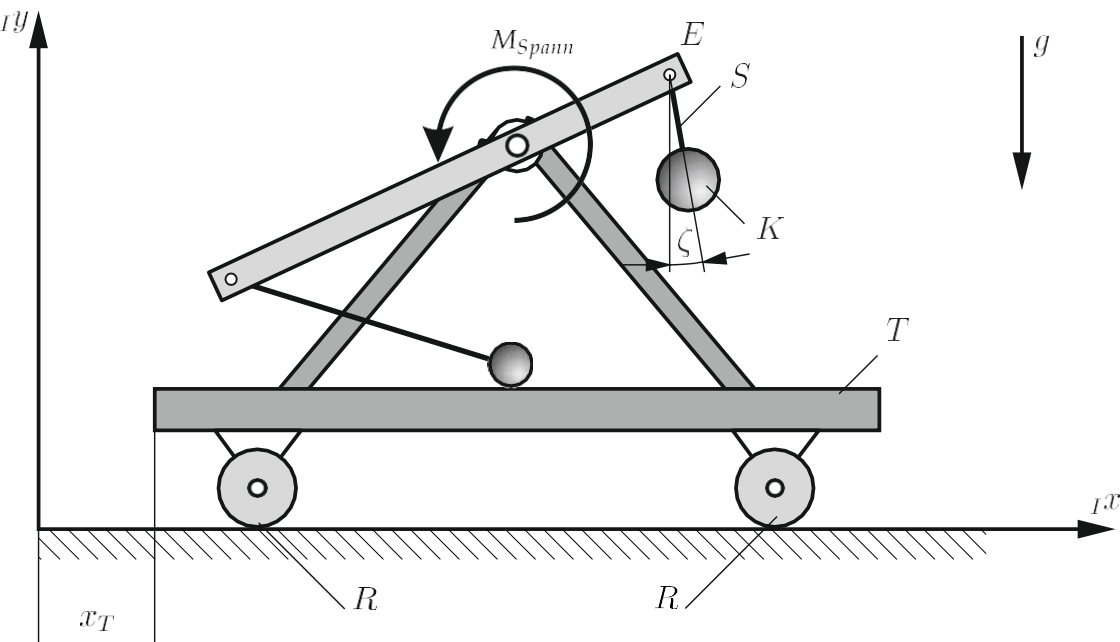

Figure 2: Sketch of the Tribok after extension of the model requirements.
c) For the further tasks the model should be extended as shown in figure 2:
The changes can be seen in Figure 2.